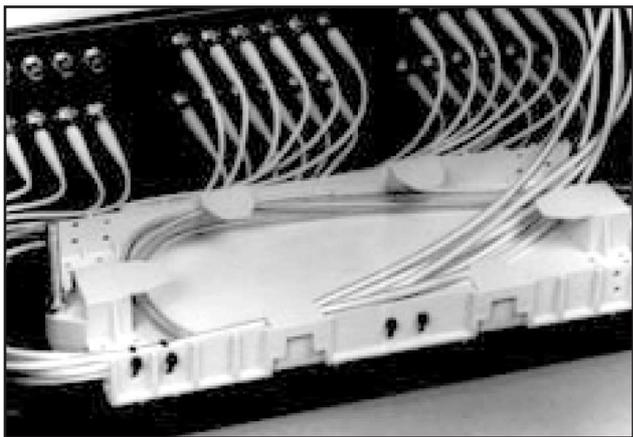

FIGURE 8 - ROUTE TRANSPORT AND PIGTAIL TUBES WITHIN TRANSITION ASSEMBLY
8.01 Route the Transport Tubes with the feeder cable fibers and the Pigtail Tube Assemblies within the Transition Assembly so that they will exit at the front left corner of the Transition Assembly. (Figure 8).
8.02 Use two tie wraps to gently secure the Pigtail Assemblies to the back right side fo the Transition Assembly as shown in Figure 8.